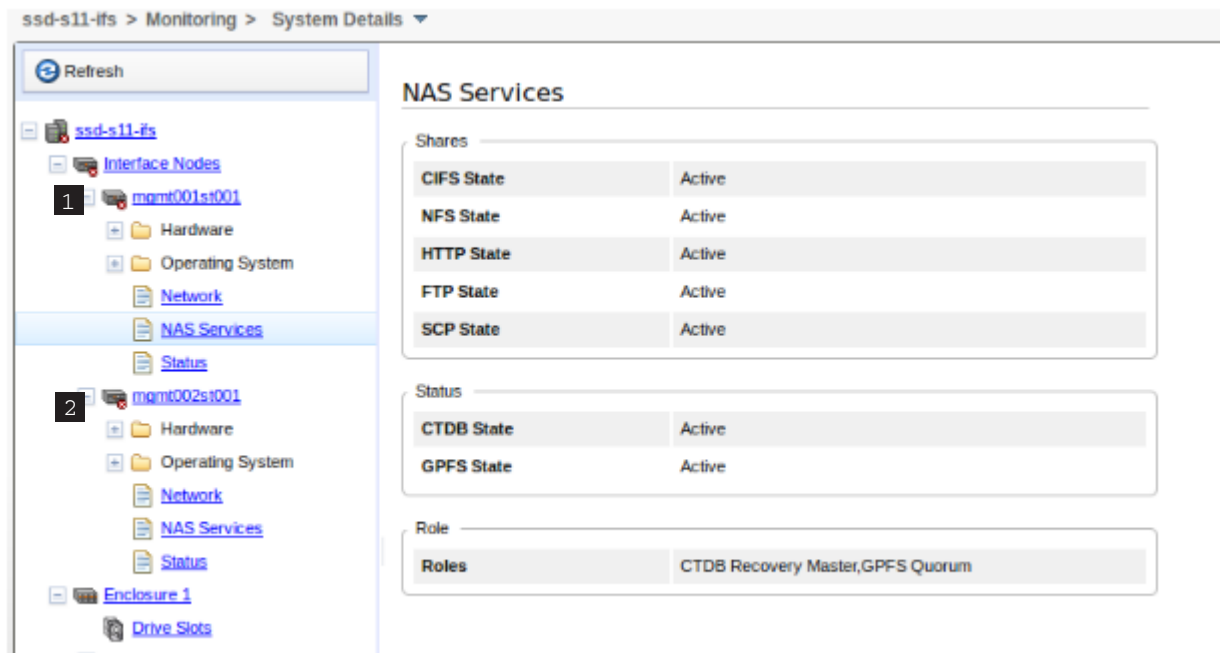

Figure 46. Management GUI showing CTDB status for both file modules
- Review the status of both file modules, **1** mgmt001st001 and **2** mgmt002st001, as shown in Figure 46 on page 170.